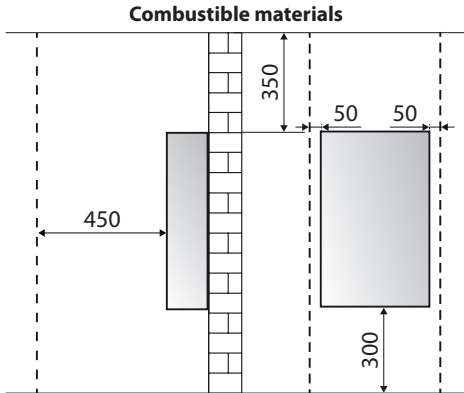

Figure 5.4
- The gas water heater should be kept away from combustible materials with the distance shown in Figure 5.4 at least.
4. The distance between the flue duct and combustible materials should be more than 150 mm. If the flue duct needs to get through the combustible materials or wall, it should use the heat shield material to pack the flue duct with a thickness over 20 mm (Refer to Figure 5.4).